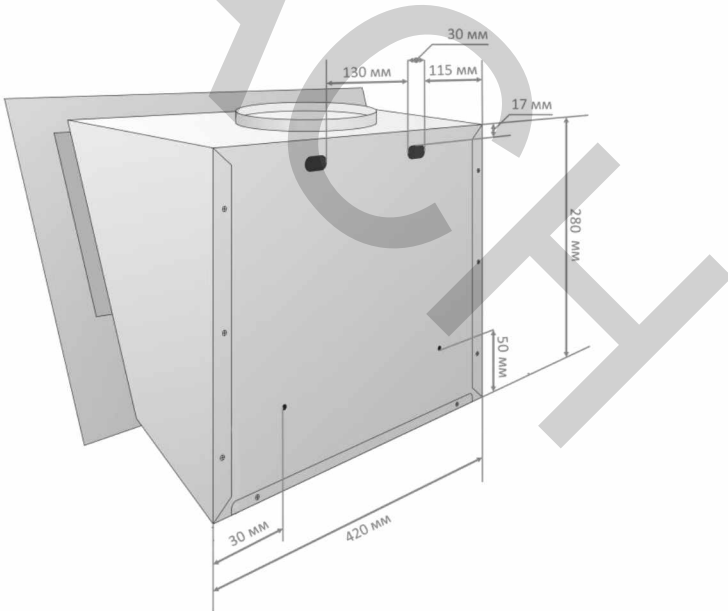

Fig. 9. Fixation holes on the back wall of cooker hood body, body dimensions
1. Hang the device on hooks of the fastened bracket. Mark the wall attaching points through holes made on the back wall of cooker hood body from the inside of cooker hood. Remove the device. (Fig.9)